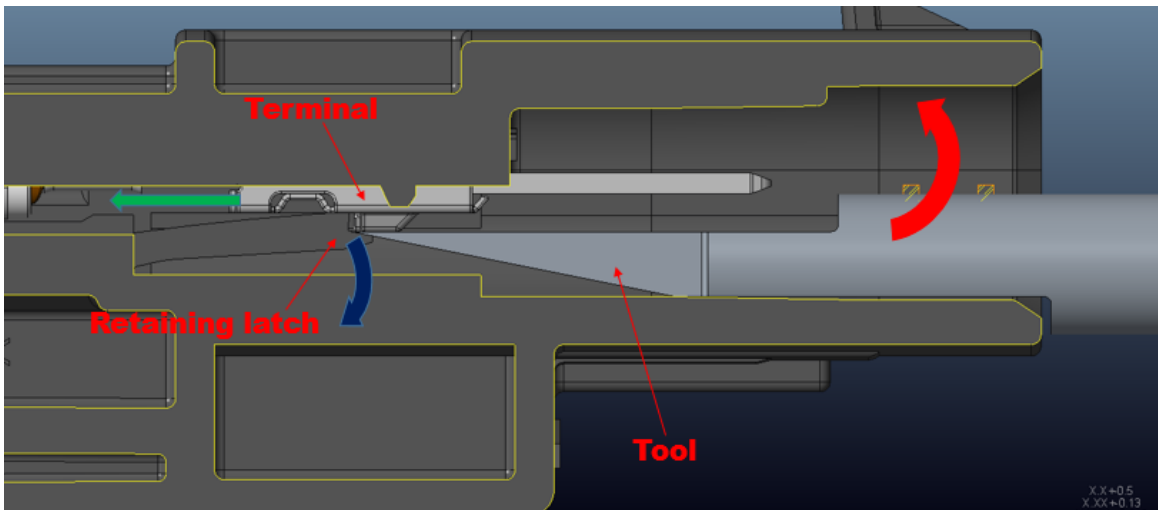

Figure 14
- a. Rotation of the tool moves the retaining latch out of the way (reference Figure 14).